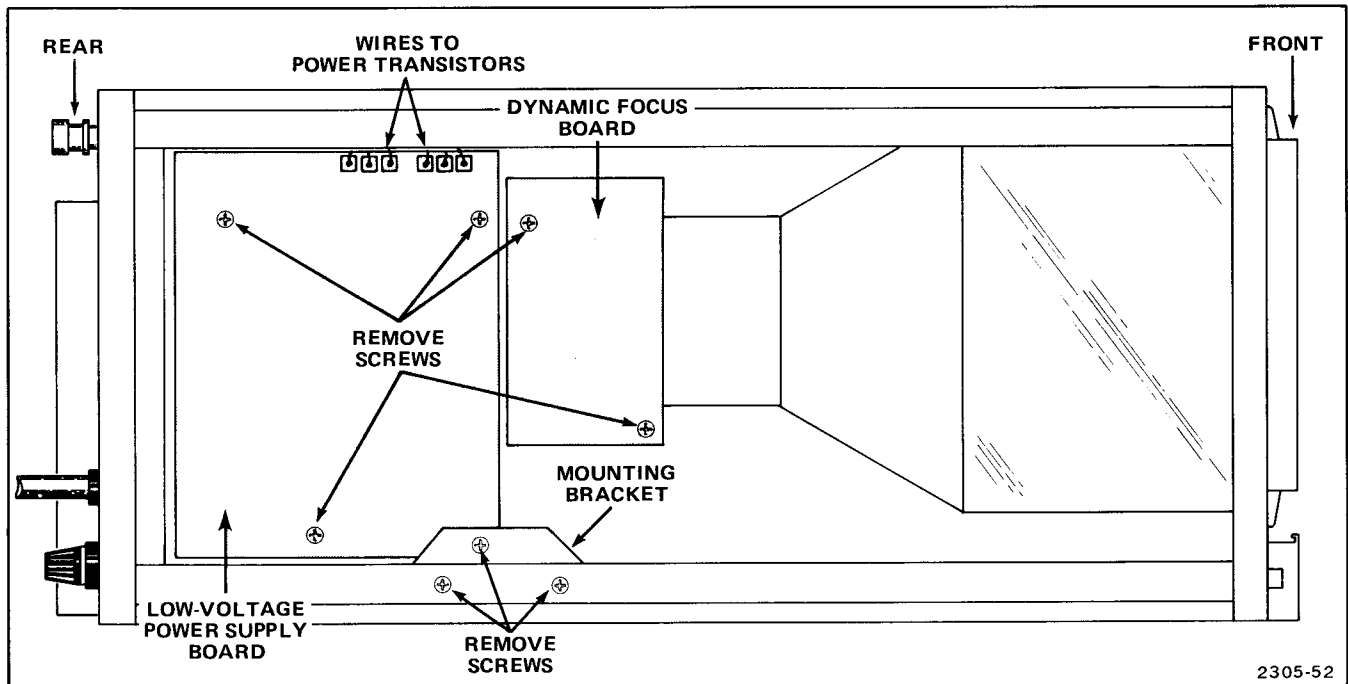

Figure 5-7. Location of screws securing A3 Dynamic Focus and A5 Low-Voltage Power Supply boards.
Remove the Dynamic Focus and Low-Voltage Power Supply boards as follows (see Fig. 5-7):
2. Remove the eight screws shown in Figure 5-7.